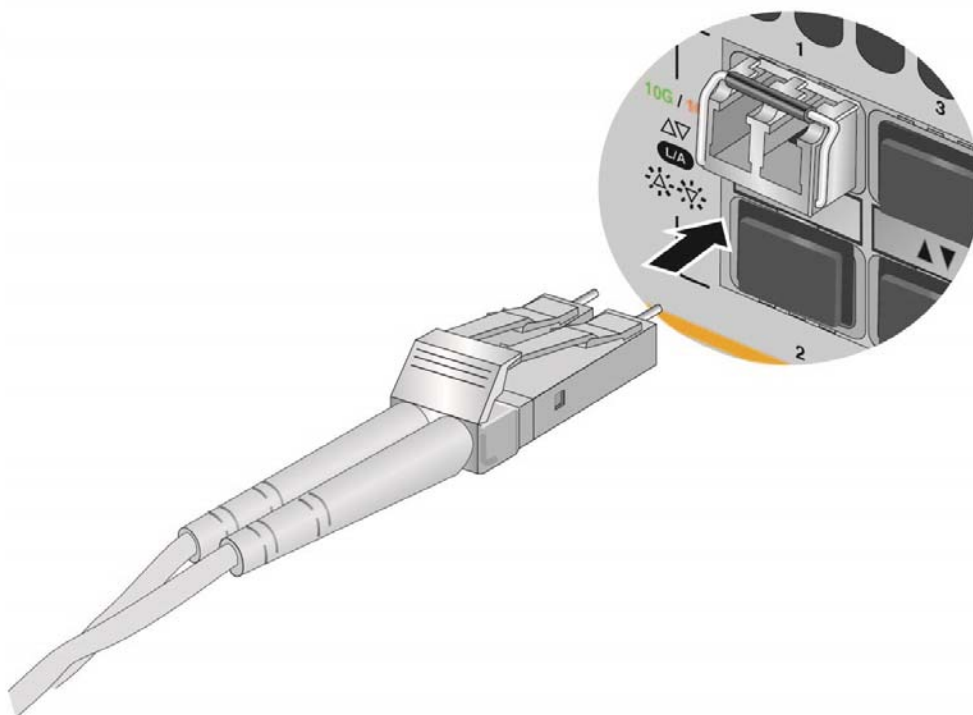

Figure 59. Connecting a Fiber Optic Cable to an SFP or SFP+ Transceiver
7. Connect the fiber optic cable to the transceiver, as shown in Figure 59 on page 100. The connector on the cable should fit snugly into the port, and the tab should lock the connector into place.